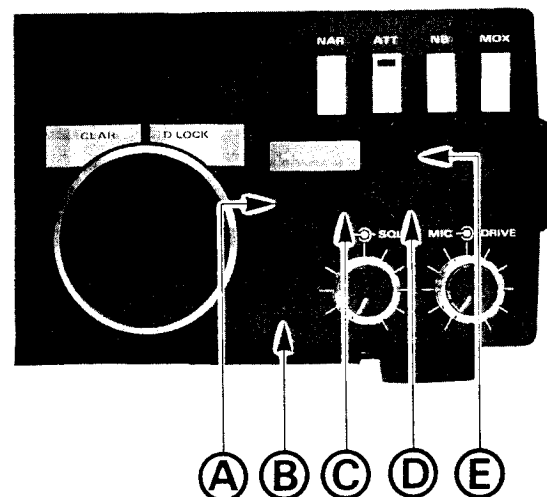

Figure 2
- 1) Switch the transceiver on, press the switch in hole **A** (Figure 2), if necessary, several times until "VFO A" is displayed.